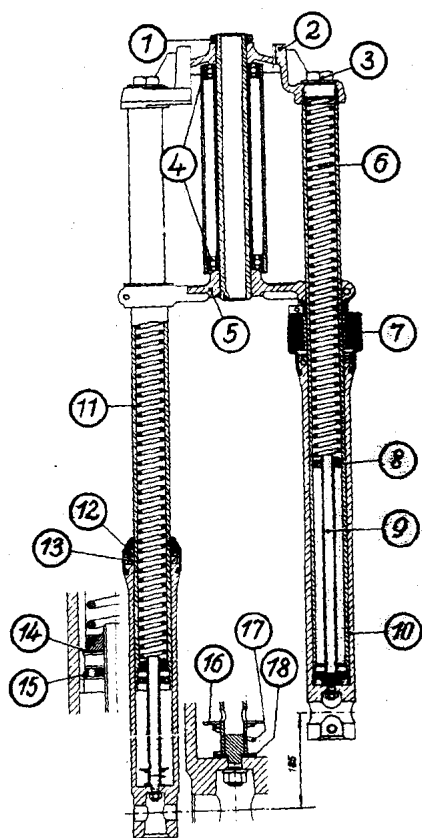

Fig. 100. Telescopic fork and steering bearing (sectional view)
NOTICE: In the later mounting of the upper and lower clamping heads, take care that the nut for the control tube (1), Fig. 100, is tightened with a torque of 150 Nm (15 kpm)!
5.3.3. Demounting and Mounting the Complete Telescopic Fork (see Fig. 100)